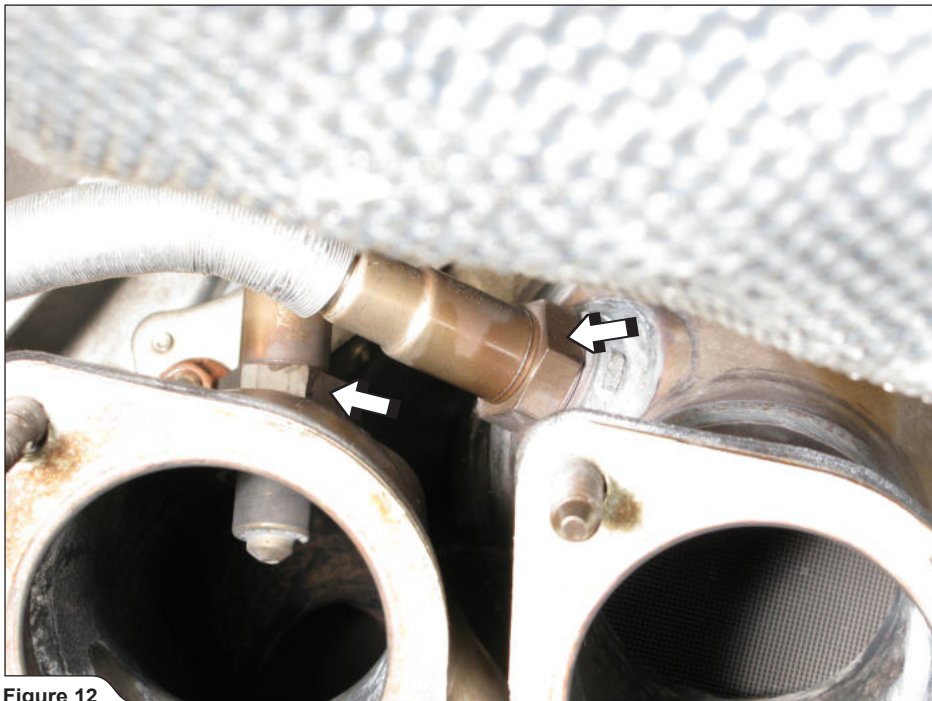

Figure 12
11. For optional Down Pipes: unscrew the rear lambda sensors out of the down pipes (Figure 12).